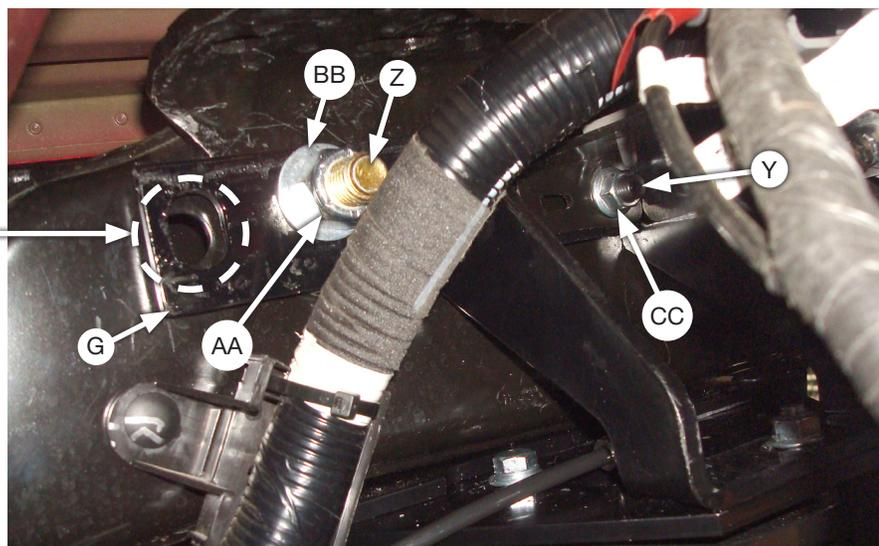

Fig. 28
4. Set the upper brace (G) in place over the 50mm set screw (Y) and against the frame. Ensure the large slot closest to the middle of the brace lines up with the fifth wheel bracket hole in the frame. Set the stock brake line bracket, previously removed, over the 50mm set screw and on top of the brace. Thread the M10 serrated flange lock nut (CC) onto the set screw. Reinstall the factory fifth wheel hardware previously removed (if equipped) or use the supplied 5/8" (Z, AA, BB) hardware through the frame and brace (Fig. 28). Leave loose at this time.